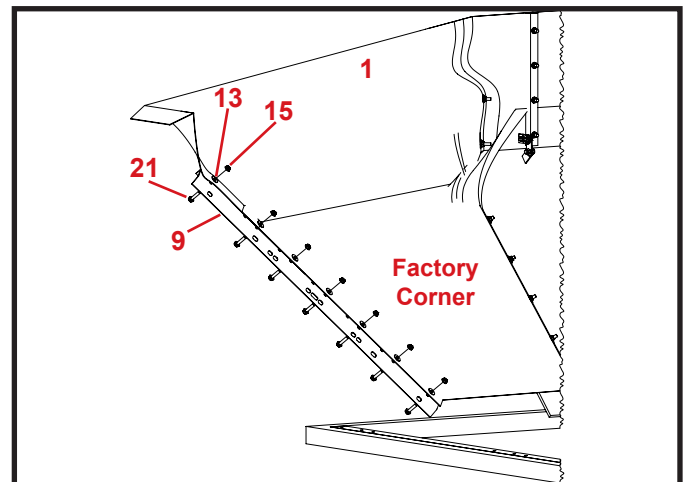

Figure 8
Attach the Tip-Up Bolt Plate (9) to the Tip-Up Corner (1) and factory corner using the 5/16" x 1 1/4" bolts (21), 5/16" flat washers (13), and 5/16" flange nuts (15) provided. (Leave the outermost hole on the Tip-Up Corner (1) open for the self tapping bolt). See Figure 8.